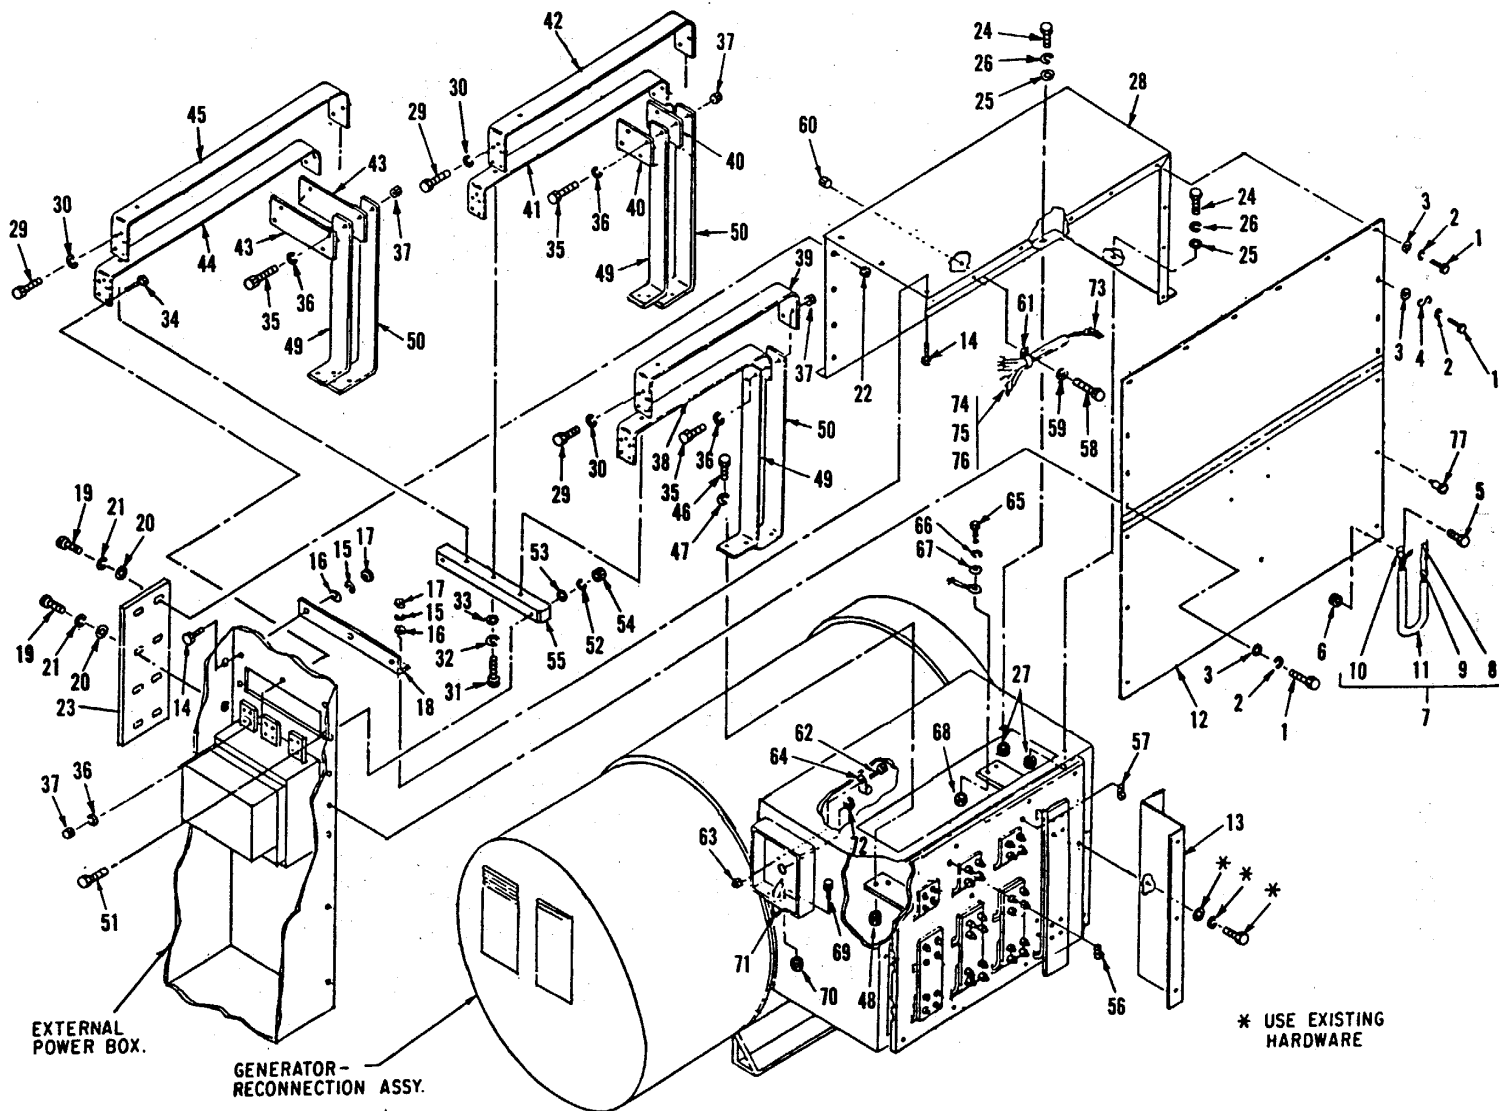

Figure 11-1. Generator Reconnection and Box Assembly, Exploded View (Sheet 1 of 2)
- (1) Remove front panel (12, figure 11-1, sheet 1) by removing screws (1), washers (2 and 3), and hook (4).
- (2) Remove panel support (13).
- (3) Disconnect, tag, and remove harness (71) and (73) and power cables (74).
- (4) Remove buss bars and jumper bars (38 thru (45) by removing their attaching hardware.
- (5) Remove reconnection board assembly (15, figure 11-1, sheet 2) by removing the 14 screws (16), nuts (19), and washers (17 and 18).
- (1) Replace reconnection board assembly (15) by replacing the 14 screws (16), nuts (19), and washers (17 and 18).
- (2) Replace buss bars and jumper bars (38 thru 45, figure 11-1, sheet 1) by replacing their attaching hardware.
- (3) Replace harness (71 and 73) and power cables (74).
- (4) Replace panel support (13).
- (5) Replace front panel (12) by replacing screws (1), washers (2 and 3), and hook (4).
- (1) Test. Using an ohmmeter test limit switch S120 (14, figure 11-1, sheet 2) for continuity. Switch should have a distinct clicking action when operated from one position to another. Replace switch if no continuity is indicated.
- (2) Replacement.
- (a) Remove limit switch S120 (14) by removing locknut and washer that secures switch to reconnection board (15).
- (b) Install new switch on reconnection board (100) and secure locknut and washer.
- (1) Remove reconnection board and buss bars, par. 11-2 a.
- (2) Remove current transformer assembly (22, figure 11-1, sheet 2) by removing ten screws (20) and washers (21).
Legend for Figure 11-1 (Sheet 1)